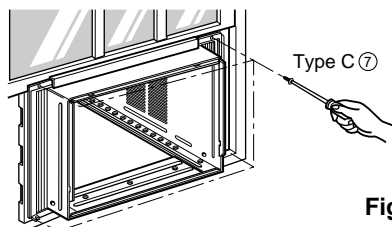

Fig. 6
- 8 Pull each Frame Curtain ① fully to each window sash track, and repeat step 2.
- 9 Attach each Frame Curtain ① the window sash using screws ⑦ (Type C). (See Fig. 6)